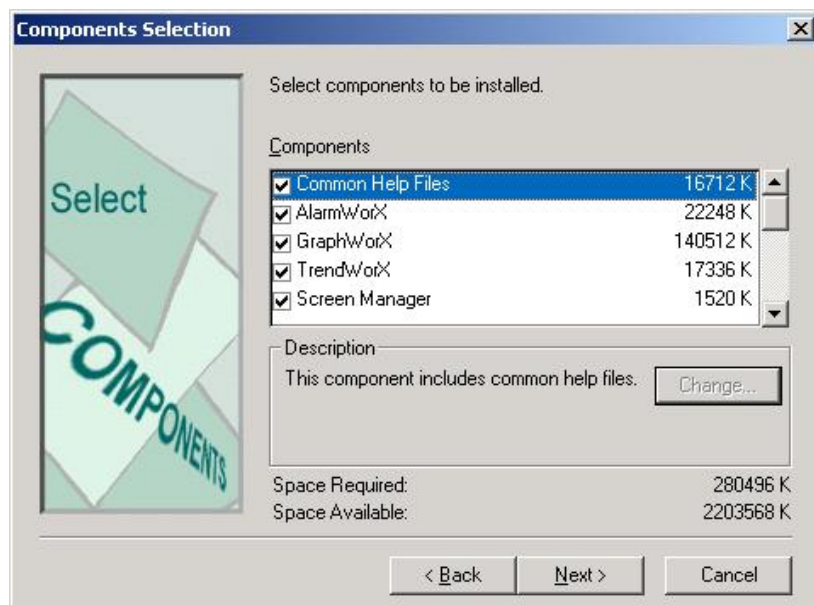

Figure 2.5. Selecting ProcessView Components
9. The **Component** dialog box appears, as shown in **Figure 2.5**. By default, the components and subcomponents installed by ProcessView require at least 600 MB of disk space. If you lack the space, a message appears asking you either to change hard drives or delete unnecessary files from your current drive.